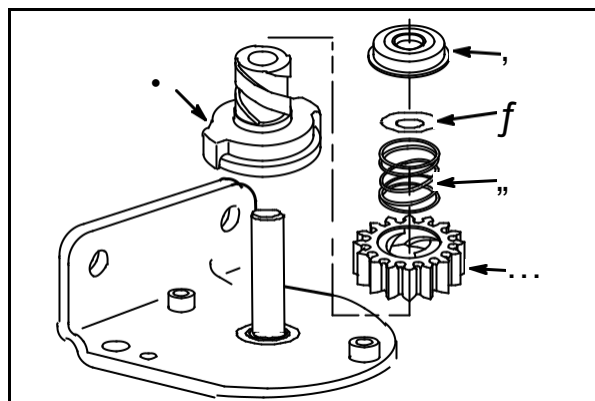

Fig. 8
Assemble clutch drive (1) to starter shaft. Rotate clutch until it drops into place, **Fig. 8**.